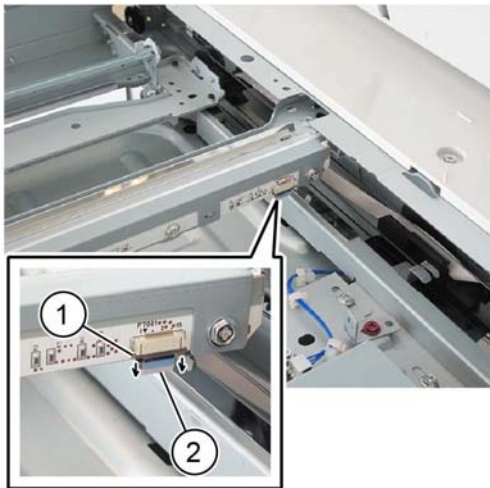

Figure 1 FFC LED cable assembly
4. Disconnect the FFC LED cable assembly, Figure 1:
- a. Move the connector housing catch (2) in the direction of the arrows.